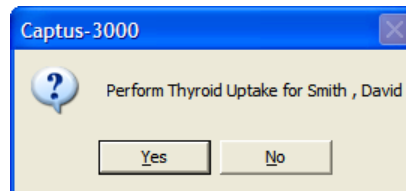

Figure 7-19
- Click the button or press *Alt+S*. Figure 7-19 will appear confirming the selected patient. To cancel the uptake or if the incorrect patient was selected, click the button to return to Figure 7-10, otherwise click to continue.